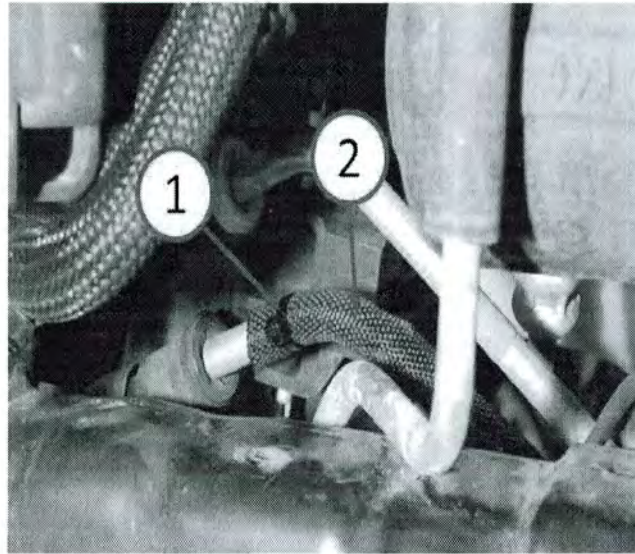
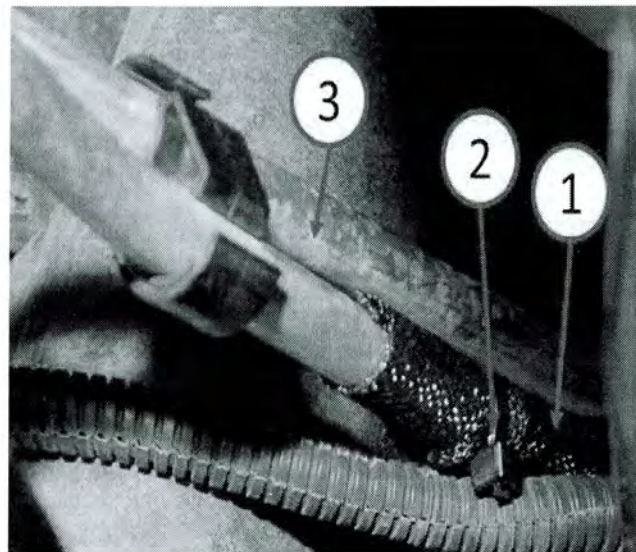

Fig. 4 Transmission Oil Cooler Tube Sleeve
Fig. 5 Transmission Oil Cooler Tube Sleeve
5. Install transmission oil cooler tube protective sleeve. Carefully slide the protective sleeve over the transmission oil cooler tube (Fig.5). Install a plastic tie strap at each end of the protective sleeve and remove the tie strap excess (Fig.4) (Fig.5).